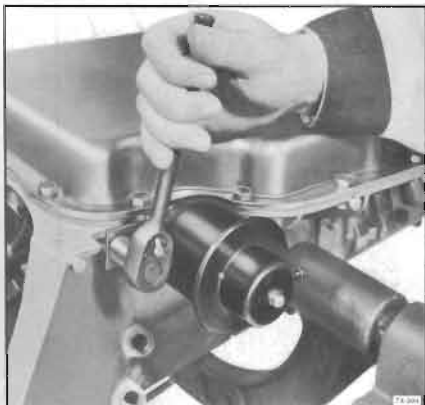

Figure 74-504
4. Remove modulator assembly attaching bolt and retainer. See Figure 74-504.